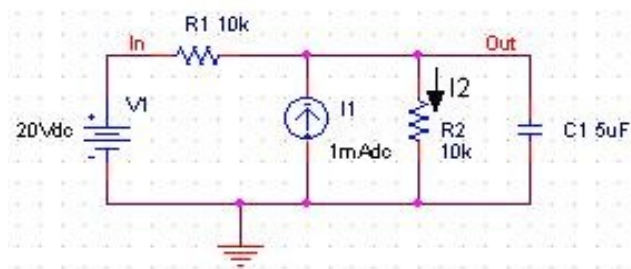

Figure 1: Circuit to be simulated (screen shot from OrCAD Capture).
7. You can assign names to nets or nodes using the Place Net Alias command (PLACE/NET ALIAS menu). We will do this for the output node and input node. Name these Out and In, as shown in Figure 1.